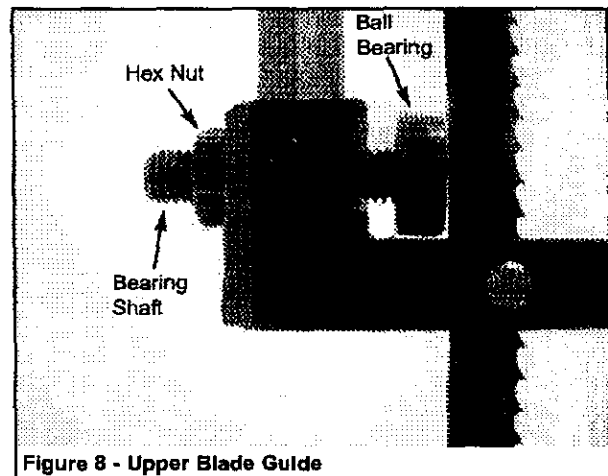

Figure 8 - Upper Blade Guide
- Adjust ball bearing at rear of blade by loosening hex nut and turning bearing shaft (see Figure 8).